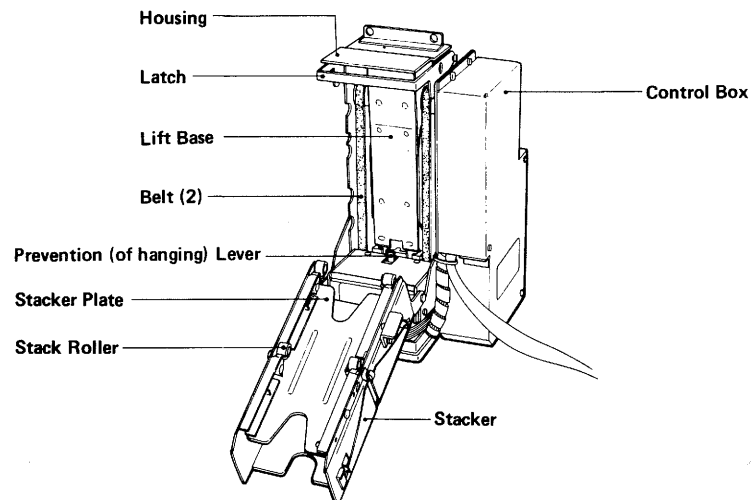

FIGURE 6b
1. Is the stacker and/or Chute "B" (Fig. 6b) separated from the validator body? Re-attach them properly using the latch.